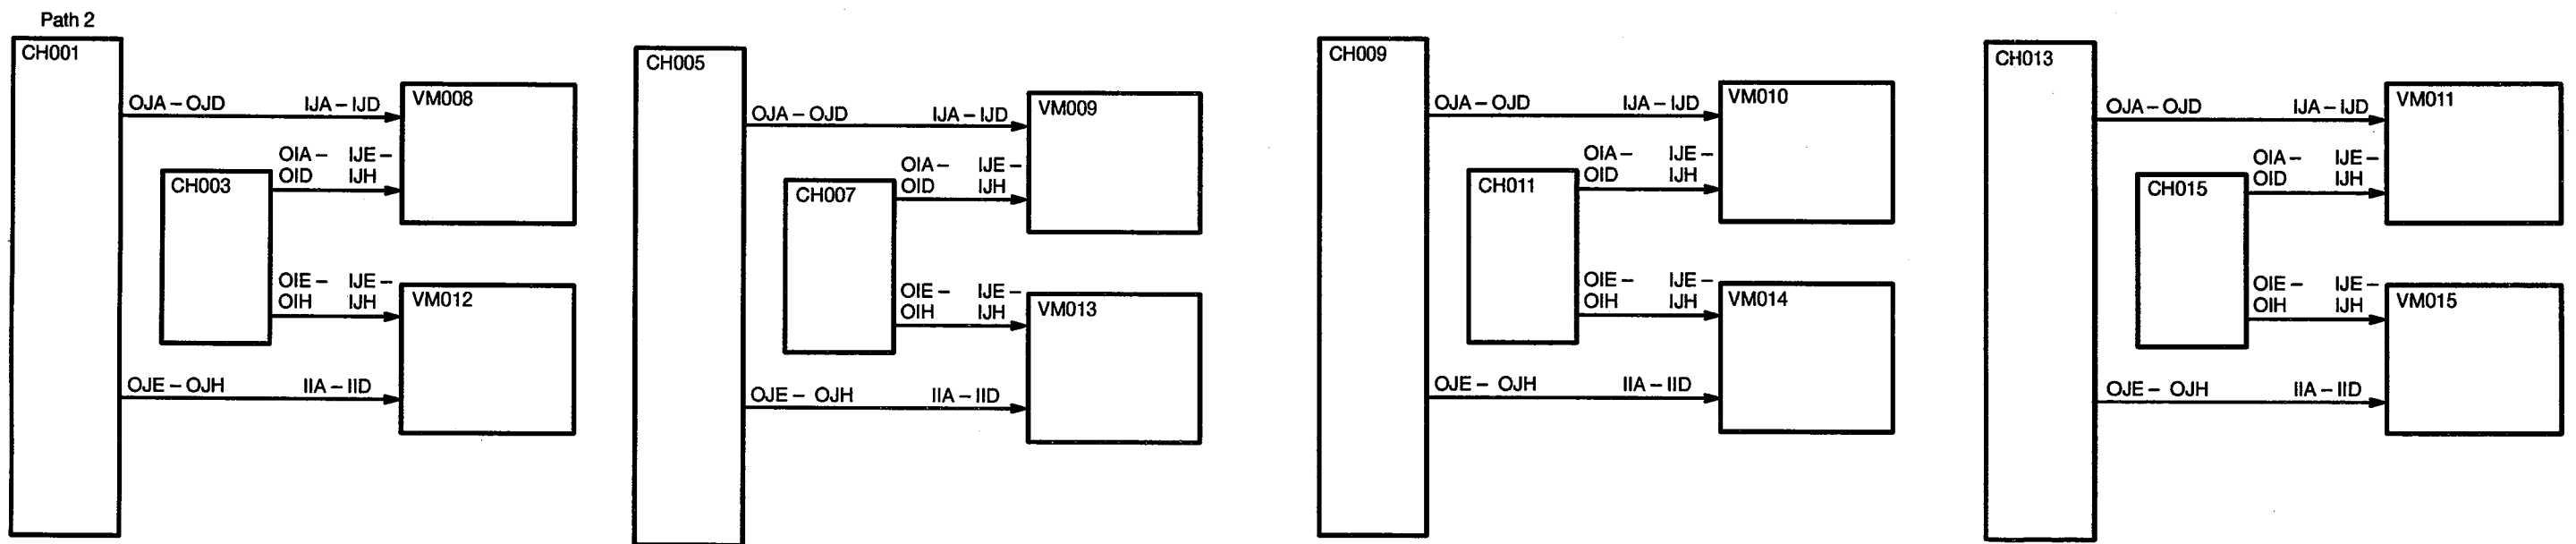

Figure 47. Memory Data to Vectors (Odd Elements)
- Figure 47 – memory data to vectors (odd elements)